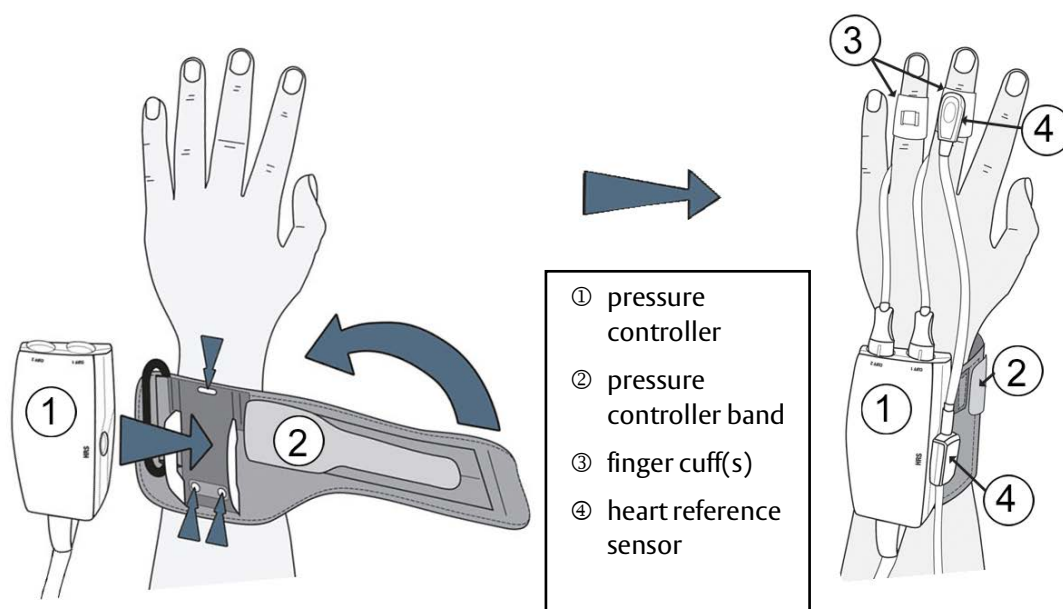

Figure 10-2 Pressure controller application
The pressure controller kit (PC2K or HEMPC2K) consists of a pressure controller (PC2 or HEMPC) and accompanying band (PC2B). A pressure controller cover is available as an accessory. The pressure controller cover secures the heart reference sensor into the pressure controller. See *Pressure Controller Cover* on page 364. Device performance, including functional characteristics, have been verified in a comprehensive series of testing to support the safety and performance of the device for its intended use when used in accordance with the established Instructions for Use. The pressure controller is worn on the patient's wrist and connects to the HemoSphere Alta advanced monitor, HRS and finger cuff(s). See figure 10-2.
- 1 Wrap the pressure controller band around the patient's wrist. The non dominant hand is preferred for monitoring in awake patients. (figure 10-2, left)